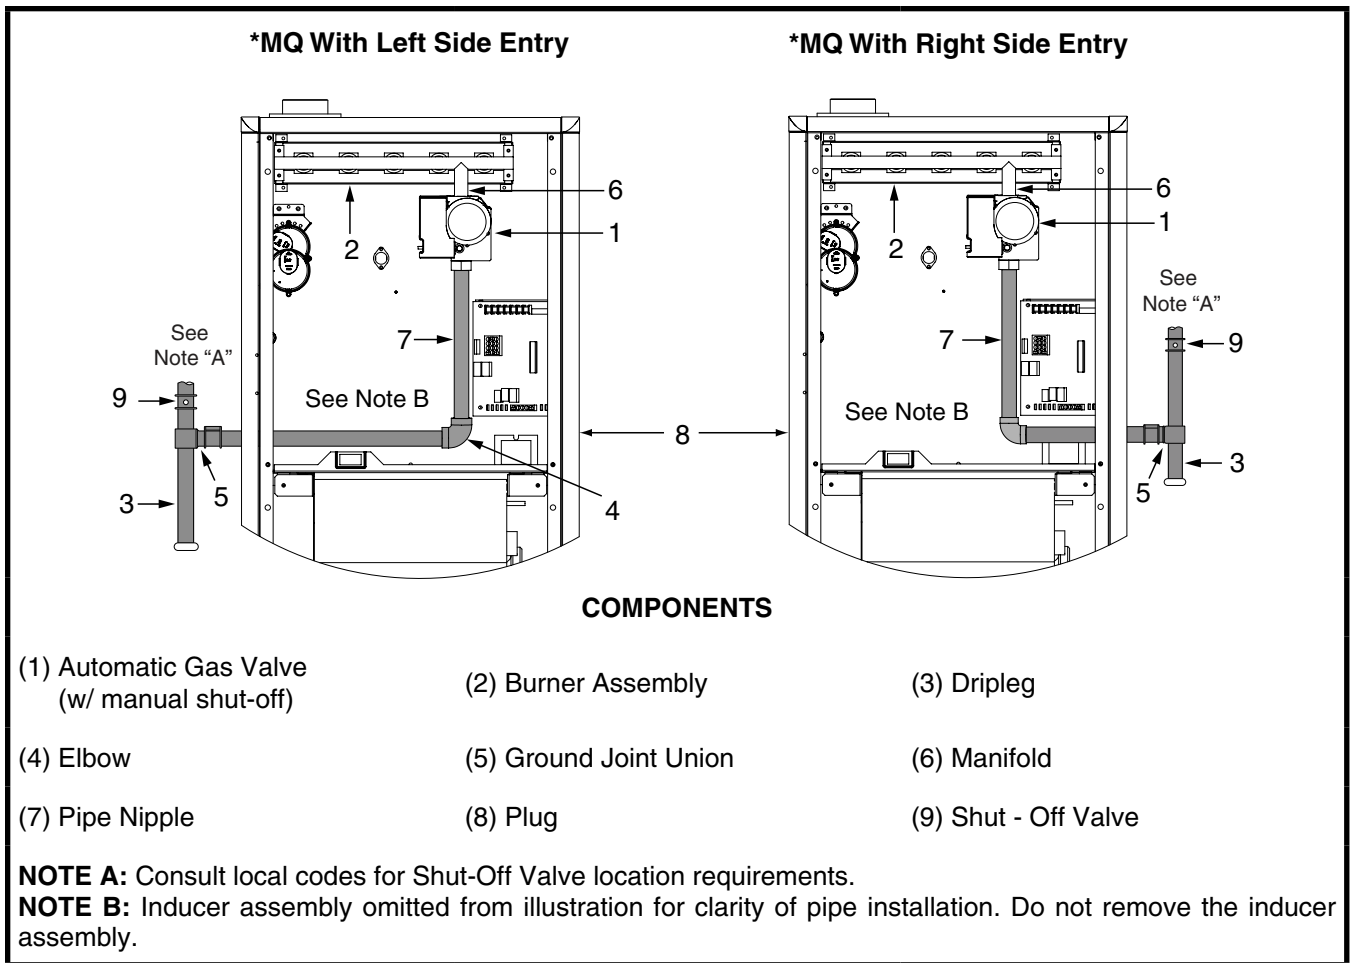

Figure 18. Typical Gas Connections
- Some local regulations require the installation of a manual main shut-off valve and ground joint union external to the furnace as depicted in Figure 18, \(page 21\). The shut-off valve should be readily accessible for service and/or emergency use. Consult the local utility or gas supplier for additional requirements regarding placement of the manual main gas shut-off.
- A drip leg should be installed in the vertical pipe run to the unit as shown in Figure 18.
The furnace may be installed for either left or right side gas entry. When connecting the gas supply, provide clearance between the gas supply line and the entry hole in the furnace casing to avoid unwanted noise and/or damage to the furnace. A typical gas service hookup is shown in Figure 18.